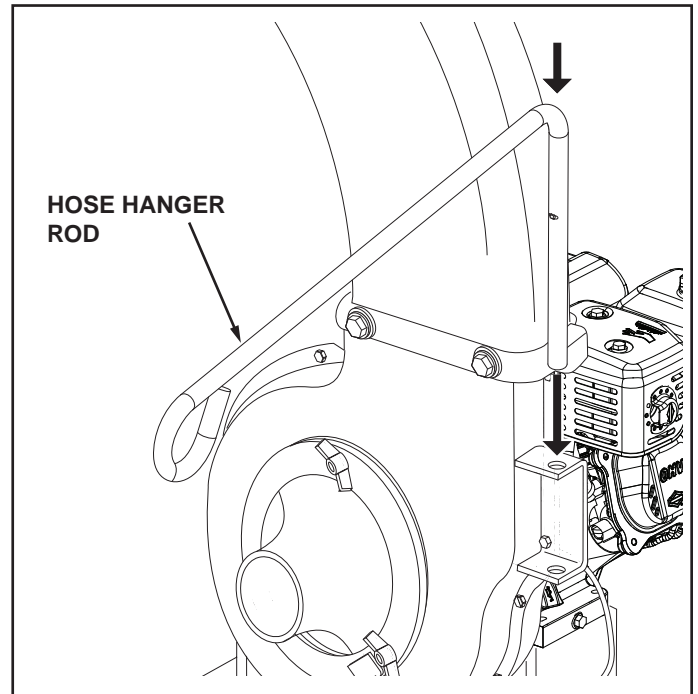

FIGURE 9
- Place the hose hanger rod down into the hose hanger bracket on the impeller housing assembly. See figure 9.